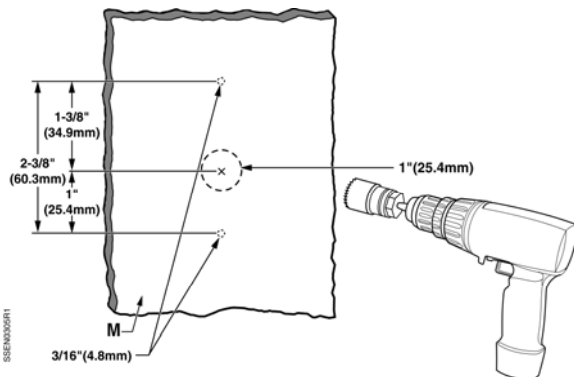

Figure 2. Mounting and Center Hole Locations.
3. Drill holes as shown in Figure 2.